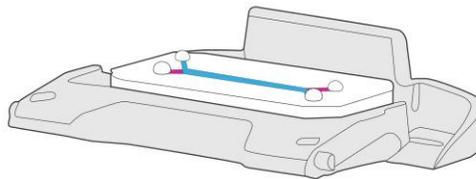

Figure 3: Chip in chip carrier with small droplets of ECM solution at ports
4. Pipet the remaining ECM in the tip as a droplet over the bottom channel inlet. (See Figure 3.)